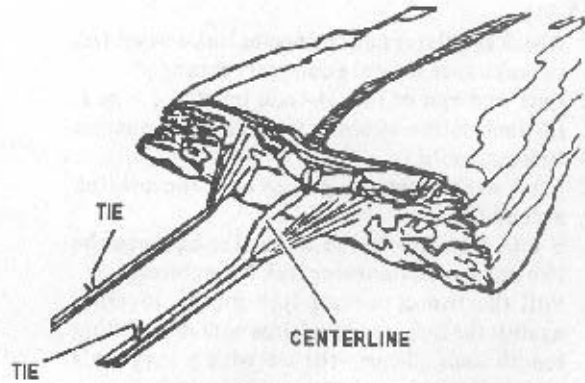

Figure 3-32
- e. Tie the right suspension line group, to include the centerline, at a point 5 feet below the skirt reinforcement. Tie the right suspension line group using one turn single of ticket number 3 or 8/4 cotton thread. Secure the ties with a surgeon's knot and a locking knot. (See Figure 3-32)